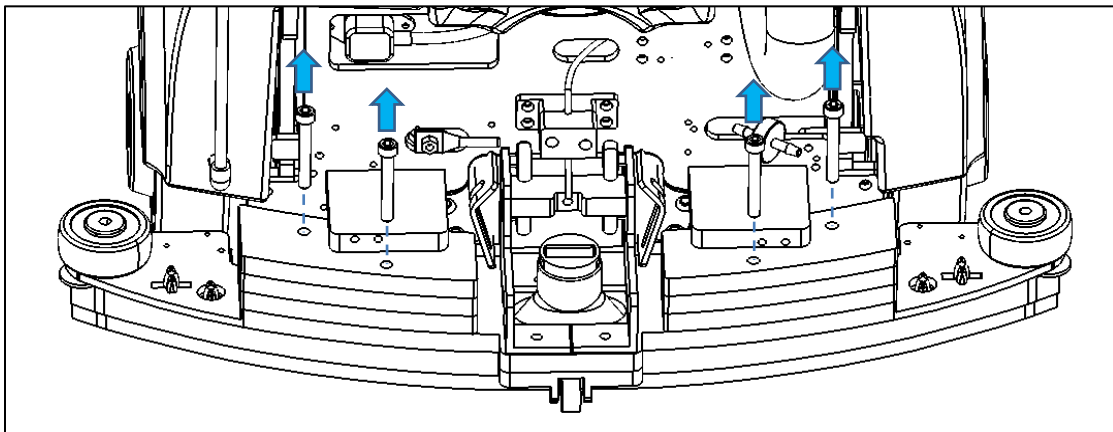
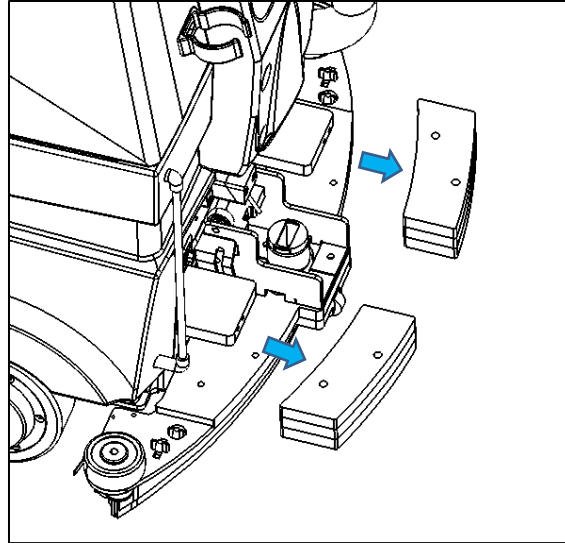

Fig. 3
Fig. 4
3. Unscrew the four screws on the weights of the squeegee assembly (Fig. 3). Remove the weights (Fig. 4).